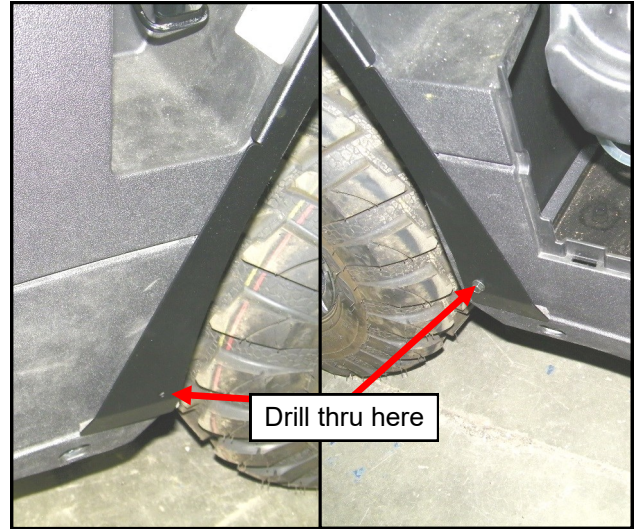

Fig. 13.1 (C-pillar lower bolt)
**13.1** Ensure the cargo bed is still in the raised and locked position, and remove the battery cover at the passenger's side seat base. Per figure 13.1, drill a 9/32" hole through the lower hole in the C-pillar and through the plastic panel underneath. Secure the C-pillar to the plastic panel with a 1/4-20 bolt outside, and steel washer and nut inside the plastic panel and tighten snug.